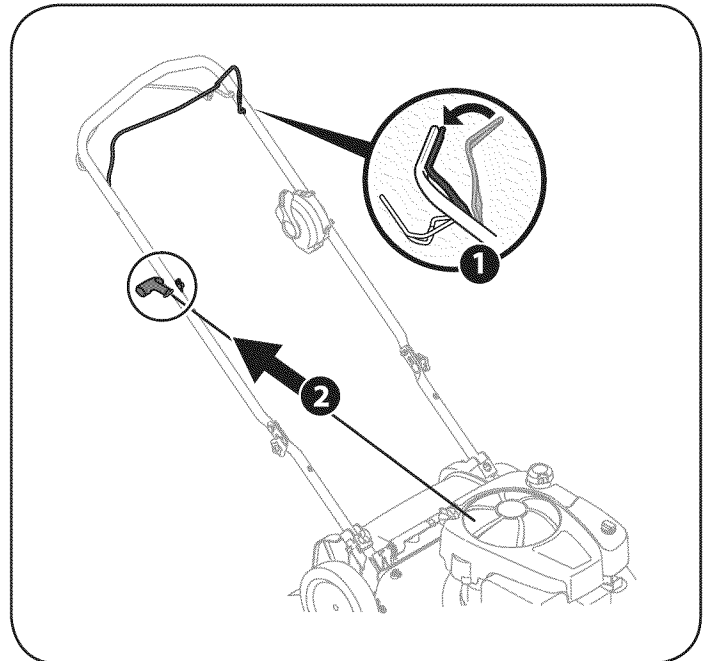

Figure 15
2. Holding these two handles together firmly, grasp recoil starter handle and pull rope slowly until resistance is felt, then pull with a rapid, continuous, full arm stroke. See Figure 15. Keeping a firm grip on the starter cord handle, let the rope rewind slowly. Repeat until engine cranks. Let the rope rewind each time slowly.